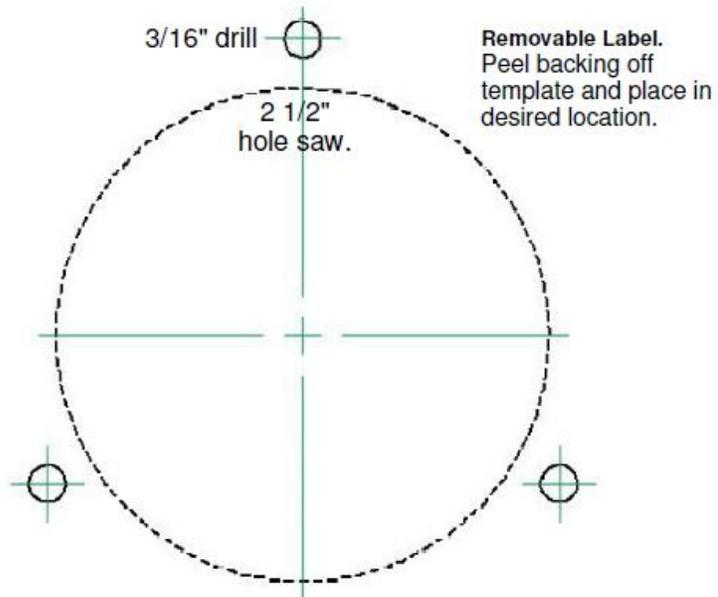

Figure 13: Joystick Template (Included with thruster kit)
- b.** Tape in place the template supplied with the joystick (see Figure 13: Joystick Template (Included with thruster kit) on the area of the console identified in Step 1a above.